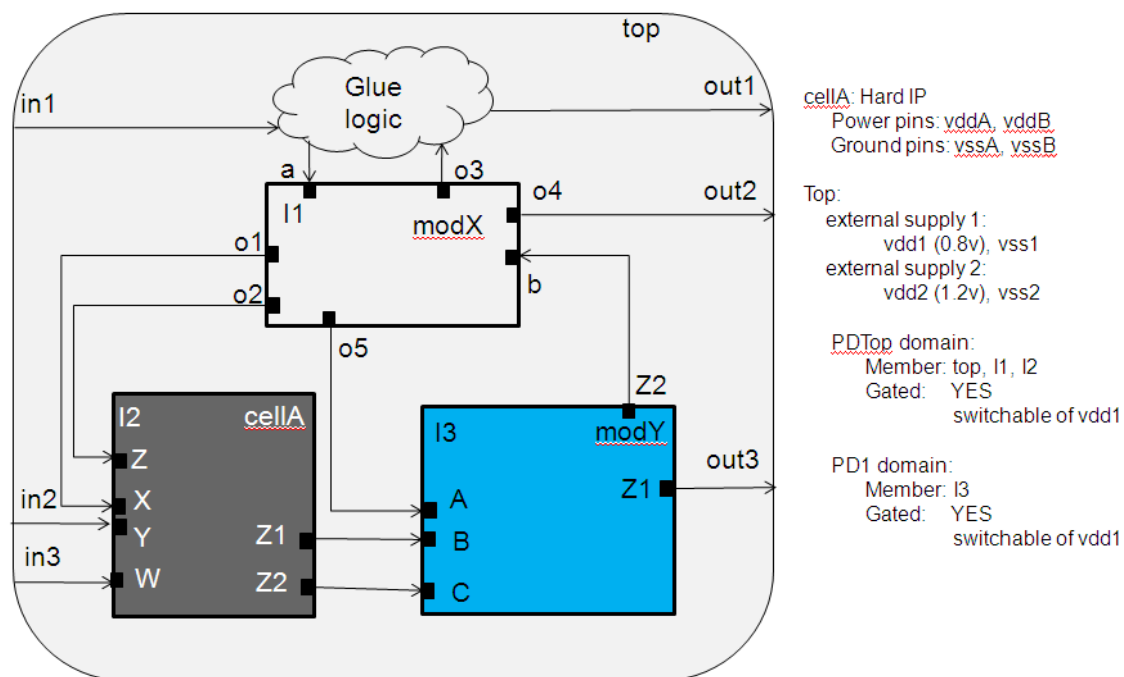
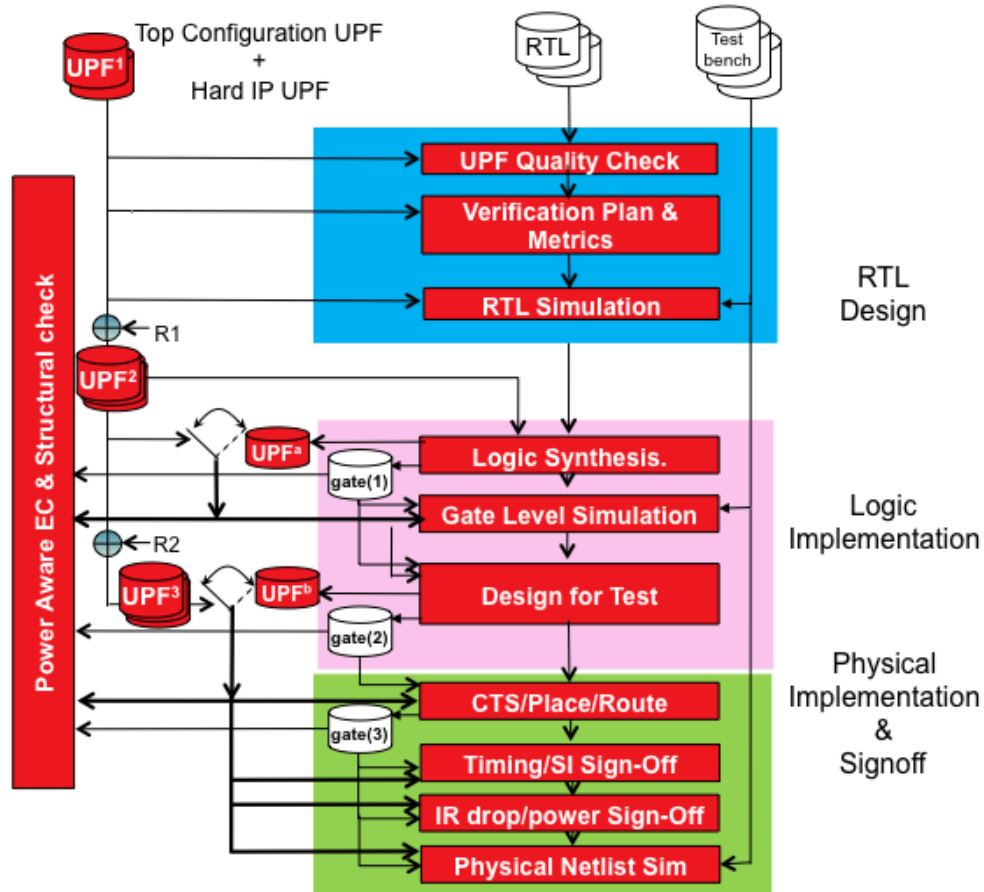
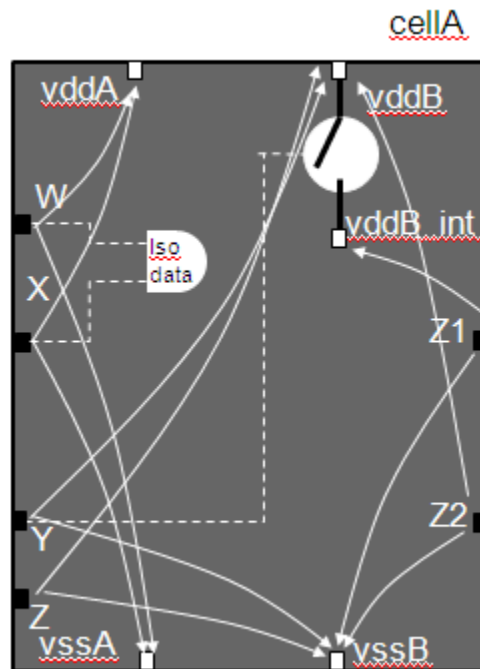

Figure E.1—Simple soft IP design
Figure E.2—Typical UPF design flow
Figure E.3—Internal power structure of the hard IP
In a typical design flow, a soft IP is implemented independently with its own timing, power, and other constraints. Similarly, a power intent file can be created for this soft IP to drive the design, verification, and implementation of its power-management architecture. Consider the simple soft IP shown in Figure E.1.
Figure E.2 illustrates a typical UPF design flow for a soft IP like the one shown in Figure E.1.
For each of the three design stages shown in Figure E.2, the design example in Figure E.1 illustrates how the UPF shall be created, used, and passed on to the later stages of the design flow. Starting from RTL design, followed by logic implementation, and then physical implementation, this annex shows how to leverage the configuration UPF (UPF¹ in Figure E.2) to create the power intent with the successive refinement methodology for later stages of the flow. Some best practices on how to create a flow to make sure the configuration UPF can be used at every stage will be discussed as well.
The configuration UPF is created at this stage, which typically includes the UPF for the RTL soft IP and the UPF for the hard IPs instantiated within the soft IP. The UPF created at this stage is often referred to as the *configuration UPF*, denoted as UPF¹ in Figure E.2.
Figure E.3 illustrates the internal power structure of the hard IP `cellA` in the example of Figure E.1. The dotted lines illustrate how some of the boundary ports are connected internally. The solid arrow lines indicate the power supply relationship of each boundary pin.
The power intent for the hard IP in Figure E.3 includes the following characteristics:
- Input ports W and X are related to $vddA/vssA$. Internally, port X has internal isolation. As shown in Figure E.3, port X is connected to the data pin of an isolation gate and W is connected to the enable pin of the same isolation gate inside of this hard IP.
In this example, the power domain `PD` is created to specify the three supply sets of the IP. The supply set handle `SSAH` is created for the power and ground ports `vddA` and `vssaA`, and the supply set handle `SSBH` is created for the power and ground ports `vddB` and `vssaB`. As indicated in Figure E.3, the hard IP has a data port `Z1` related to the internally gated supply of `vddB`.